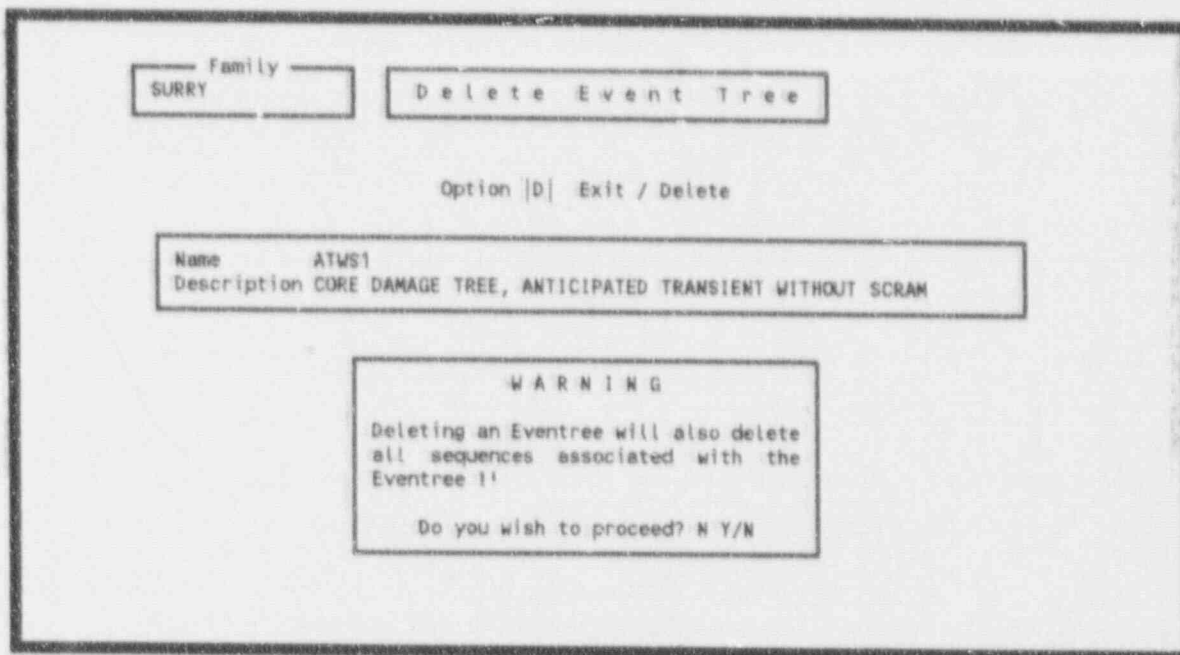

Figure 163. Warning screen for an event tree deletion.
**7.3.4.2 Delete.** This option performs the actual deletion of the event tree record. To invoke this option, type <D> in the option field and press <Enter>. A warning screen will appear, allowing you to cancel the deletion at this point (Figure 163). If you respond Y (yes), all sequence records associated with the event tree will be deleted from the data base. You will be returned to the Edit Event Trees screen with the message **Record deleted** displayed.